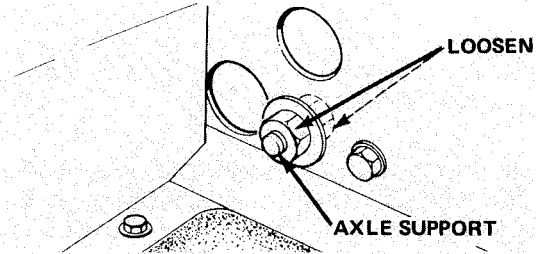

Figure 47
2. To correct vertical misalignment, loosen axle support nuts at rear of floor plate (Fig. 47). A transmission that is too high will have a gap between the scale and the coupling retainer. To correct this problem, install a 1/16 inch (1.6 mm) spacer between rear of mounting pad and bottom of